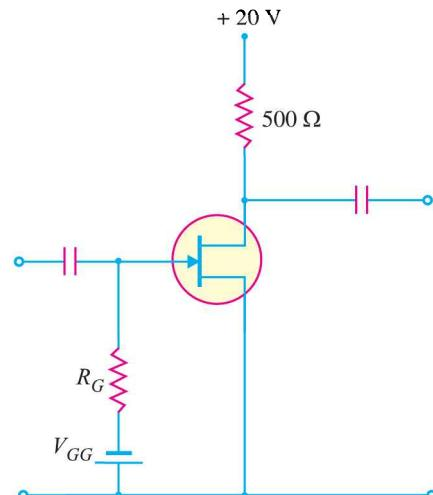

Fig. 19.65
- For the JFET amplifier shown in Fig. 19.65, draw the d.c. load line.